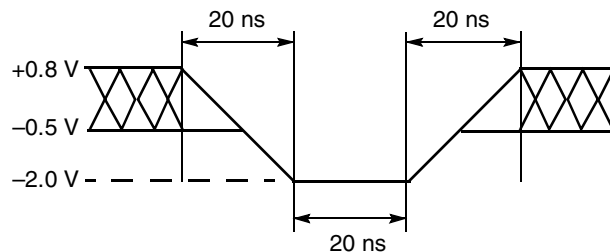
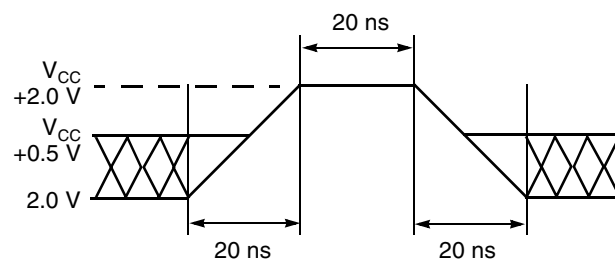

Figure 8. Maximum Negative Overshoot Waveform
Figure 9. Maximum Positive Overshoot Waveform
1. Minimum DC voltage on input or I/O pins is -0.5 V . During voltage transitions, input or I/O pins may overshoot V_{SS} to -2.0 V for periods of up to 20 ns. Maximum DC voltage on input or I/O pins is $V_{CC} + 0.5\text{ V}$. See Figure 8. During voltage transitions, input or I/O pins may overshoot to $V_{CC} + 2.0\text{ V}$ for periods up to 20 ns. See Figure 9.
2. Minimum DC input voltage on pins A9, OE#, RESET#, and WP#/ACC is -0.5 V . During voltage transitions, A9, OE#, WP#/ACC, and RESET# may overshoot V_{SS} to -2.0 V for periods of up to 20 ns. See Figure 8. Maximum DC input voltage on pin A9 is $+12.5\text{ V}$ which may overshoot to $+14.0\text{ V}$ for periods up to 20 ns. Maximum DC input voltage on WP#/ACC is $+9.5\text{ V}$ which may overshoot to $+12.0\text{ V}$ for periods up to 20 ns.